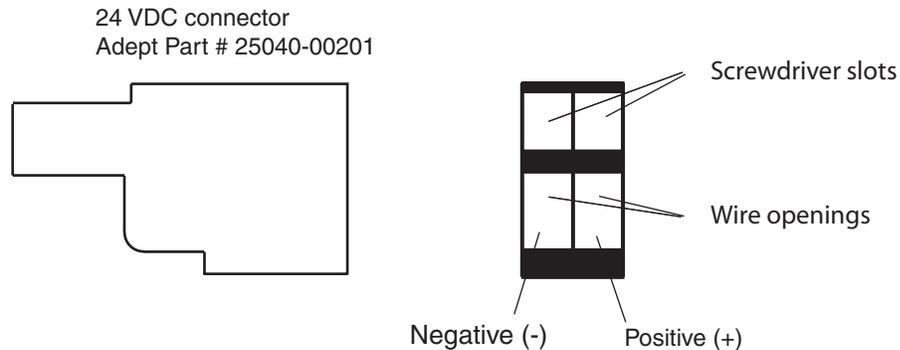

Figure 2-9. 24 V Connector
1. Locate two 24 VDC connectors that are shipped with the controller. See Figure 2-9 on page 35.